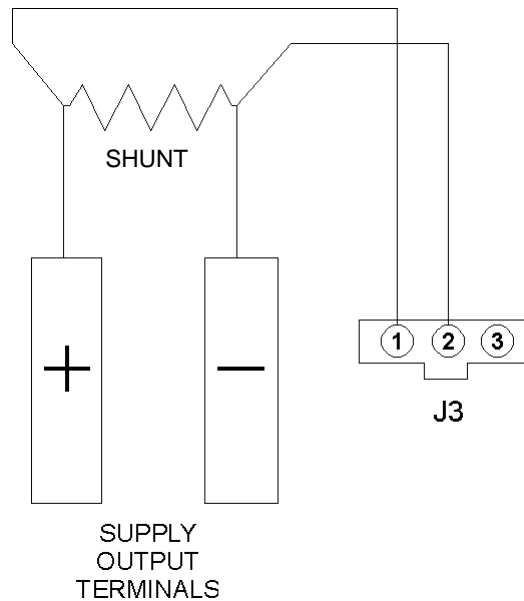

Figure 4-1. Precision Current Shunt
2. Connect the power supply to a precision current shunt (as shown in Figure 4-1 below) capable of a minimum of 10% above full rated output. A fan may be required to cool the shunt.
2. Connect the power supply to a precision current shunt (see Figure 4-1, Section 4.1.2 Preparation).
2. Connect a precision shunt as shown in Figure 4-1.